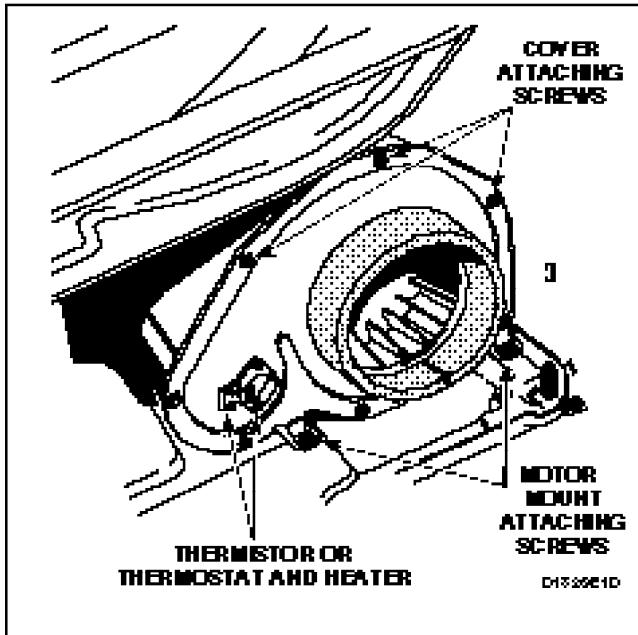
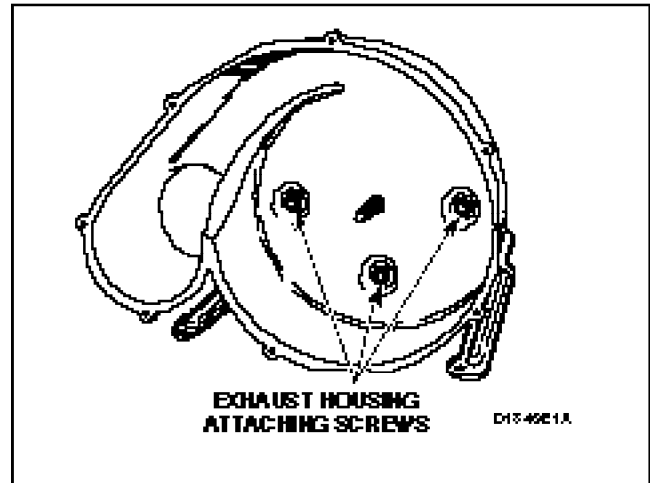

Figure 29
Figure 32
- Remove two screws holding motor mounting bracket to dryer base, *Figure 29*.
- (1) Remove screws holding cover to housing, *Figure 29*.
- (2) Hold motor pulley securely and unthread impeller from motor shaft (right hand thread). Use a 7/8 inch, 6 point socket to aid in the removal of the impeller.
- (3) Remove three screws holding the exhaust housing to the motor mounting bracket, *Figure 32*.